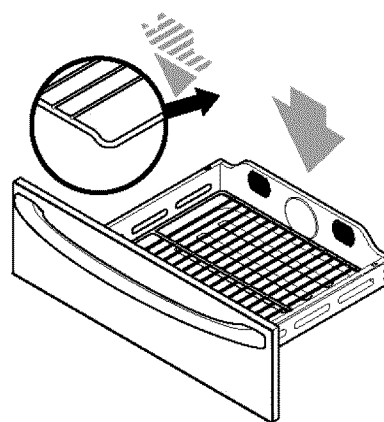

Fig. 1
- The lower oven rack **must always be in place when cooking or warming.** Be sure that the rack is placed with the down turned sides into the drawer -Fig. 1. This will provide for some air space between the drawer and the food.